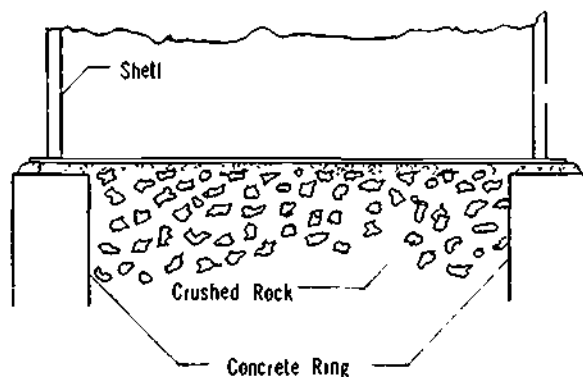

Figure 12-3. Concrete Ring Grade
**Concrete Ring** An alternative method of building a grade is to pour a ring of reinforced concrete usually 2'-3' wide (depending on tank size) with suitable footings. The centre is filled with sand or layers of crushed rock and sand. These should be tamped and packed by watering heavily. The fill should extend about 1"-2" (based on how well the material is packed) above the concrete ring so that when settlement occurs, the bottom plates will not bear over the sharp edge of the concrete ring. This type of grade is generally sealed off around the edges in the same manner as solid concrete pads (Figure 12-3).